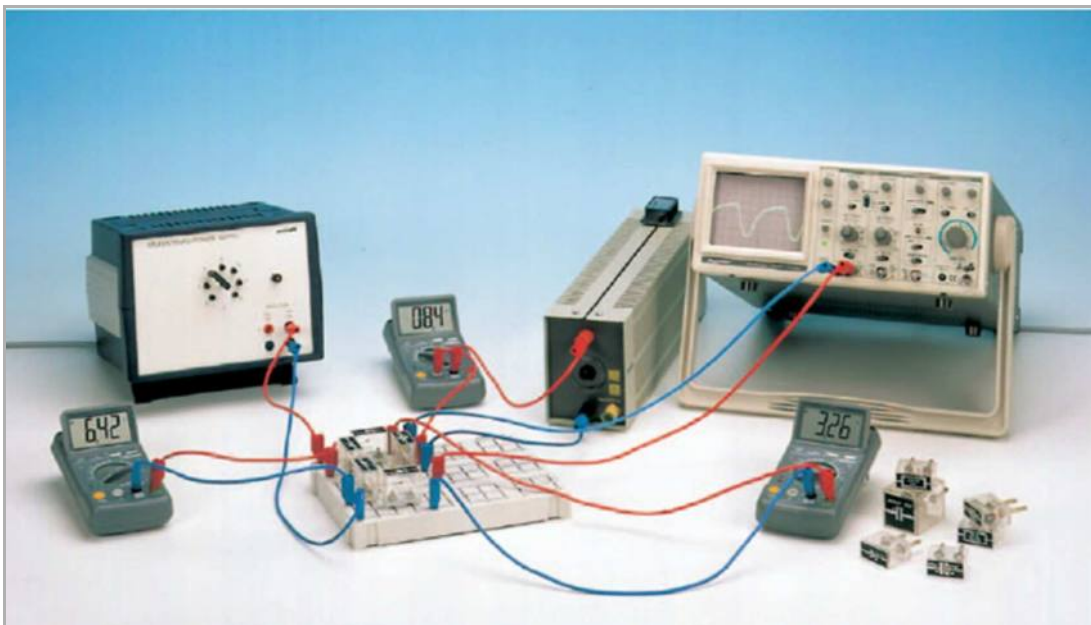
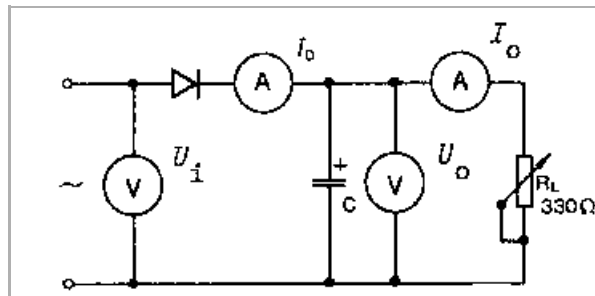

Figure 1: Bridge rectifier with voltage stabilization.
Fig. 2: Half-wave rectifier circuit.
Set up the experiment on the universal plug-board in accordance with Fig. 1 and the circuit diagrams in Figs. 2 to 5. The output current is varied by the load resistor  $R_L$ . Care should be taken that the current does not exceed the maximum permissible  $I_A$  through the silicon diodes.
- In a half-wave rectifier (Fig. 2), only the positive half-waves of the input alternating voltage appear at the output, i.e. If there is no charging capacitor we obtain a pulsating direct voltage.